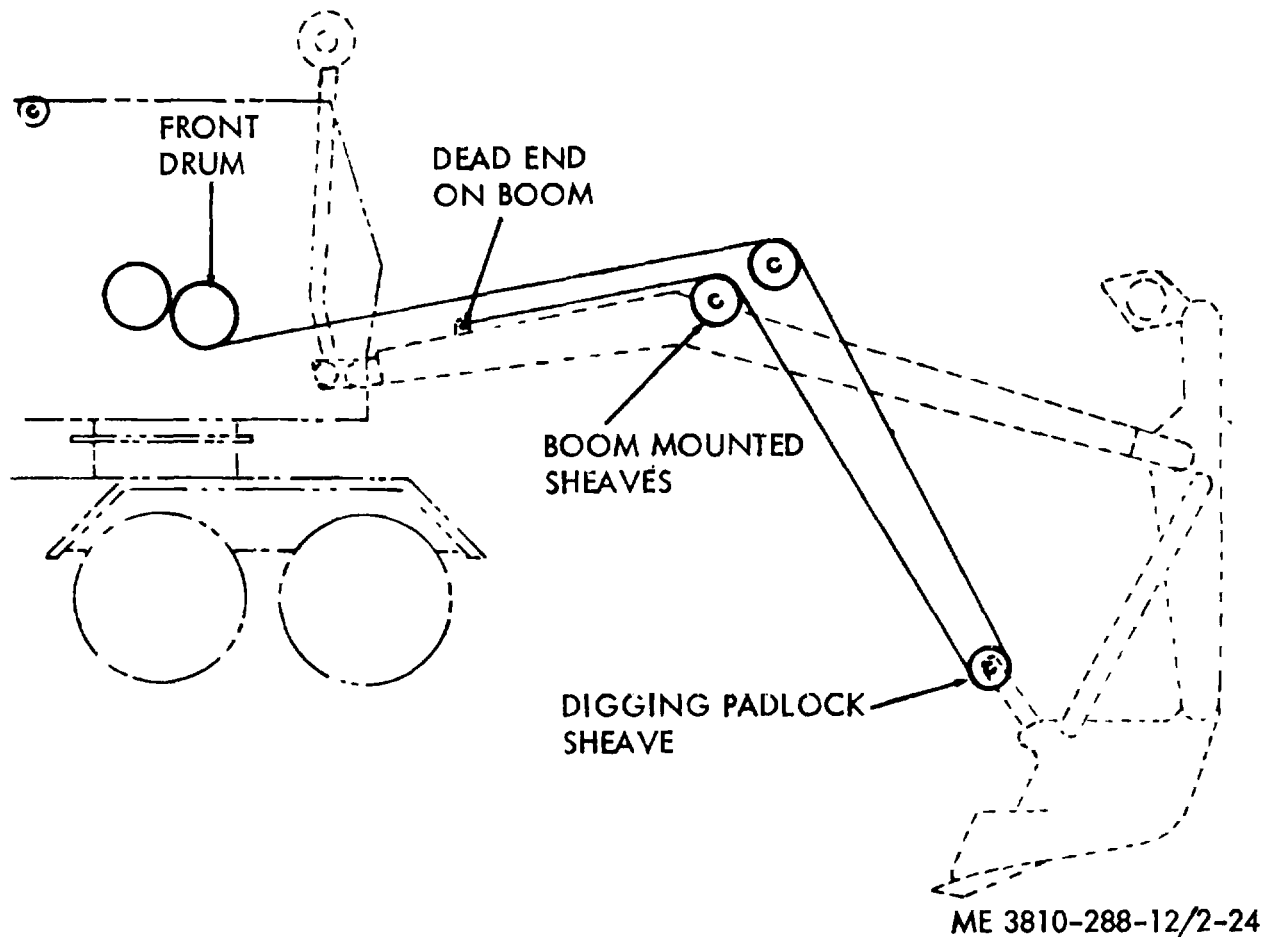
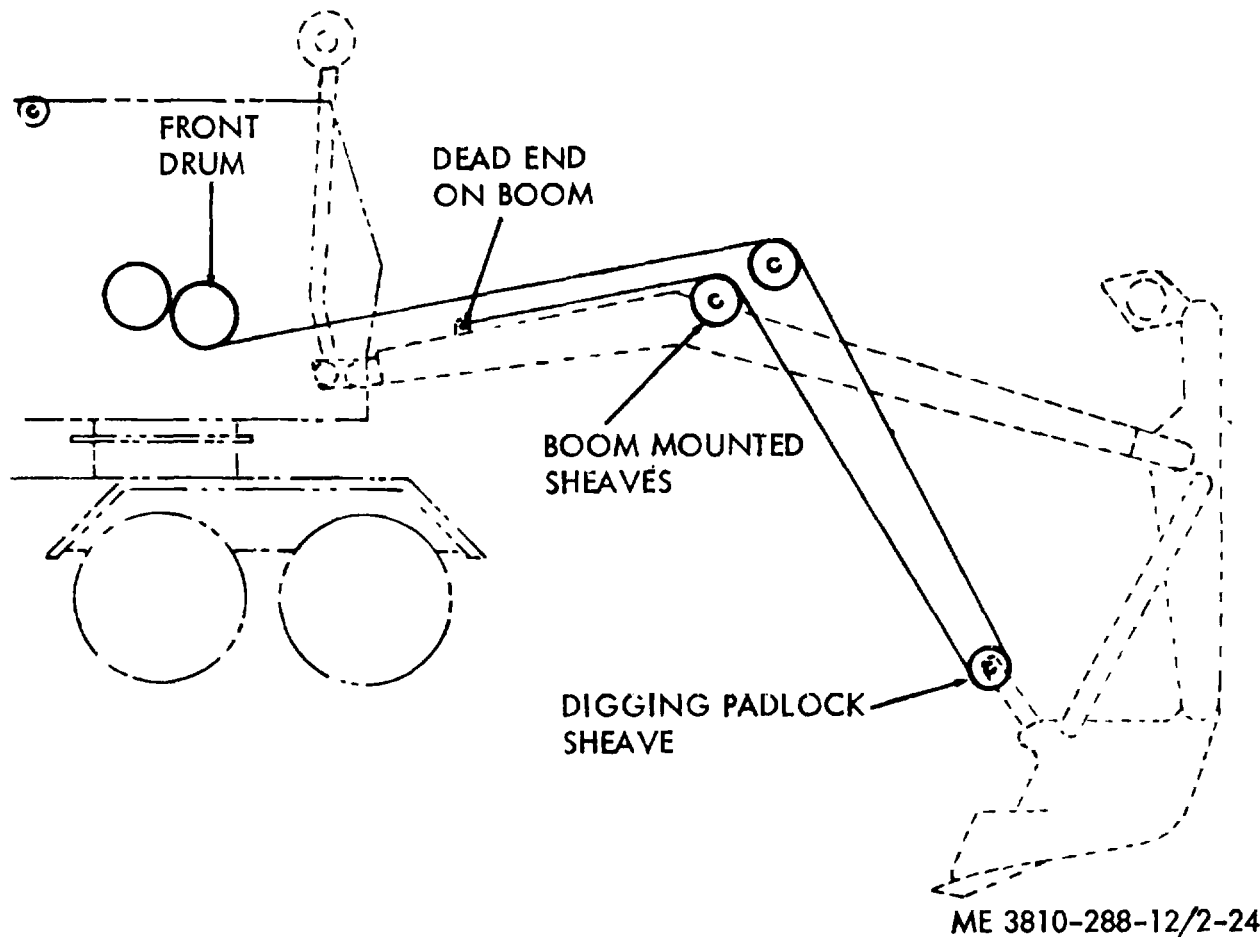

Figure 2-24. Backhoe digging cable reeving.
Figure 2-25. Backhoe hoist cable reeving.
(4) Install the gantry frame hold down cable (3/4" dia. x 8'-6" long) between the revolving frame and the upper end of the gantry frame.
(5) Unroll and stretch the digging cable out on the ground on the right side of the boom.
(6) Reeve the digging cable as shown in figure 2-24.
(8) Raise the gantry mast to the working position, using the boom hoist lever. Spool the slack hoist cable on the boom hoist drum slowly, making certain that the cable wraps evenly on the drum the first time.
(9) Unroll and stretch the hoist cable out on the ground on the right side of the boom.
(10) Reeve the hoist cable as shown in figure 2-25.
(2) Remove the digging cable, hoist cable, and mast suspension cable. Refers to fig 2-23, fig 2-24 and fig 2-25.
(3) Use a wedge between the cribbing and boom to remove the weight of the boom from the boom foot pins.
(4) Remove the boom foot pins, and drive the boom foot pins out of the boom foot lugs, releasing the backhoe boom attachment from the truck crane revolving frame.
(5) Drive the carrier slowly, away from the backhoe attachment.